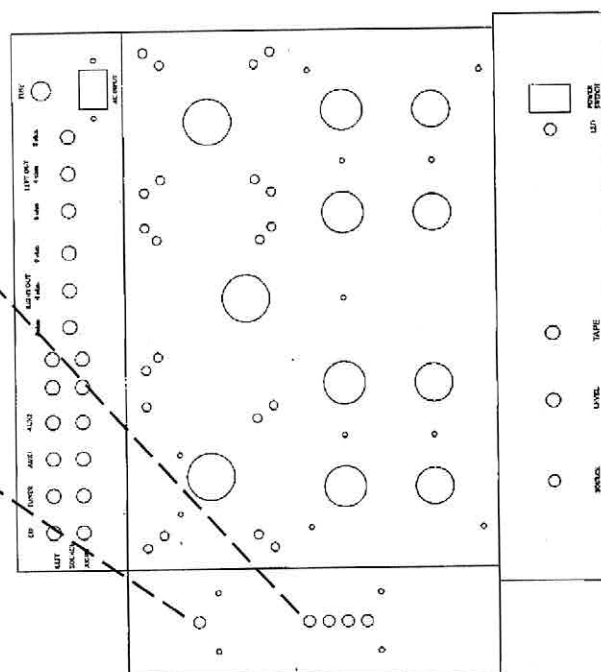

FIGURE 20
- #105(✓) Install the banana jack into the the hole located at the rear of the chassis, on the side (figure 20). It is advisable to lock the screws and nuts with some adhesive.